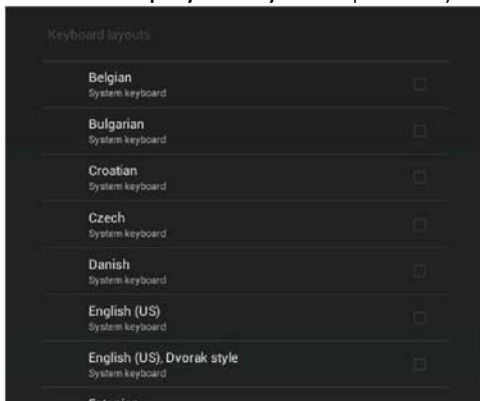

FIG. 91 Keyboard Layout window
6. Press **Set up keyboard layouts** to open the Keyboard Layout window (FIG. 91):